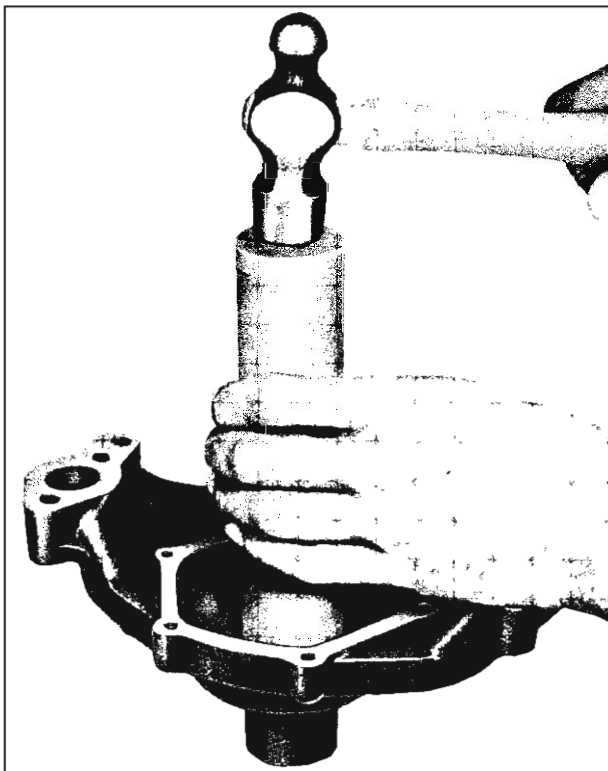

Fig. 201—Installing Seal (235 and 283 Cu. In. Water Pump)
2. Lightly coat O.D. of new seal with a sealing compound and press into place with Tool J-5590, applying pressure to the seal outer flange. The seal should bottom with the outer flange against the pump body (figs. 201 and 202).